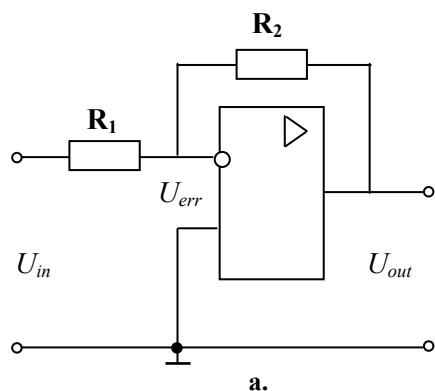

Fig. 2.20
**Inverting feedback voltage amplifier.** An inverting amplifier given in Fig. 2.20,a also uses the negative feedback to stabilize the working conditions in the same way. Here, the output voltage drives the feedback resistor  $\mathbf{R}_2$ , which is connected to the inverting input. The voltage gain is given by
The circuit characteristic is linear. By virtue of the negative voltage gain, the amplifier inverts the input signal. In the case of  $R_1 = R_2$  the circuit is called an *inverter* because the output signal is equal to the inverted input signal. Its circuit symbol is shown in Fig. 2.20,b.